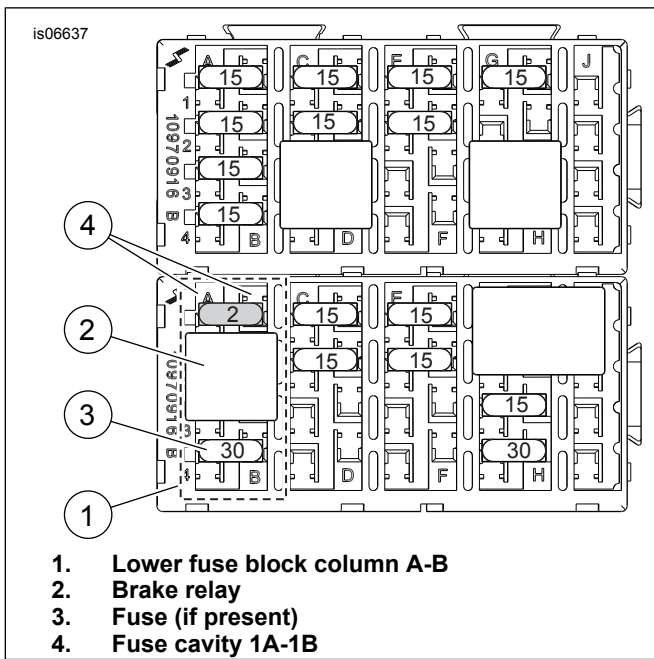

Figure 14. P&A IGN Fuse Cavity (2008-2013 Touring Models)
3. See Figure 14. Locate fuse cavity 1A-1B (marked "P&A IGN", "2A MAX" on the cover) on the lower fuse block (1). Remove the brake relay (2) and fuse (3, if present) currently installed in column A-B, noting their location.
7. Install the 2A fuse (18) from the kit into fuse cavity 1A-1B (See Figure 14., Item 4) to complete the circuit.